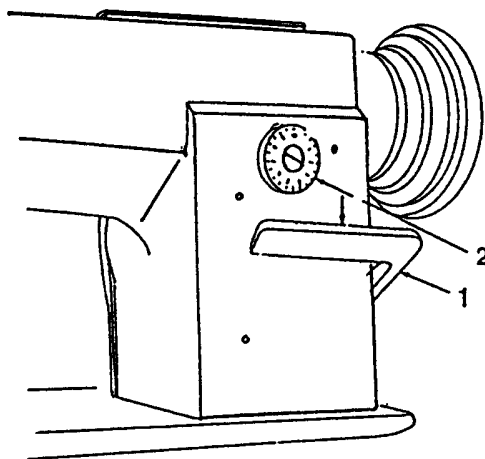

Fig.12
### STITCH LENGTH ADJUSTMENT & REVERSING LEVER (Fig.12)
1. Loosen the screw (1) for cover plate (2) and then remove the cover plate (2)
2. Normally put the arrow mark (7) of the cam (6) on the V ditch (5) of arm shaft.
4. And, pushing the stitch length regulating lever (1, Fig.12) up and down, turn the cam (6) and set this at the point both the needle and the feeder rest. After positioning completed, tighten the each screw securely.